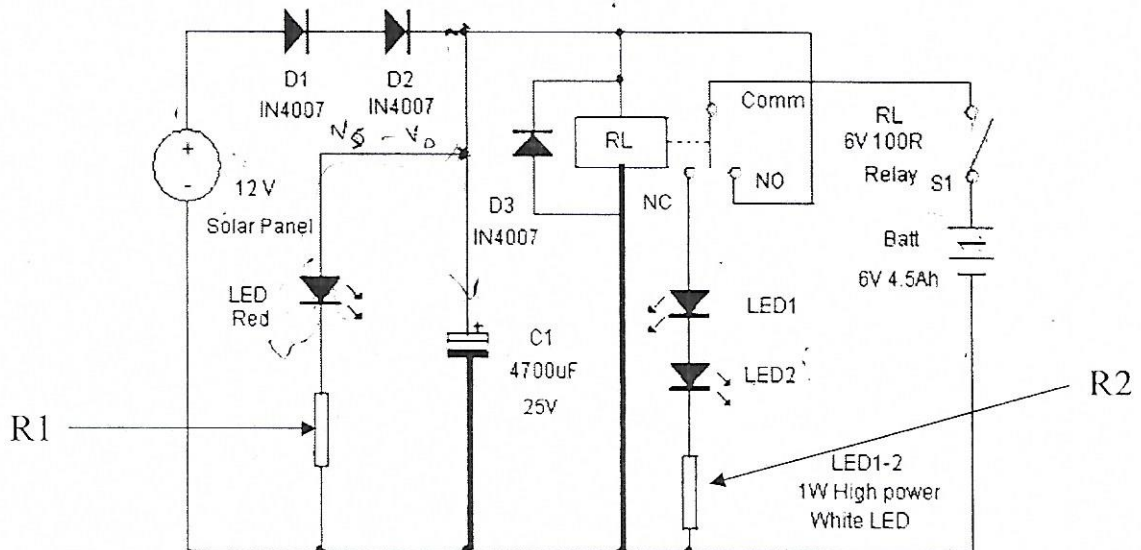

Figure Q2: Solar Lamp Circuit Diagram
- a) Figure Q2 shows a circuit diagram of a solar lamp used to charge the battery during the day and light the LEDs at night. The solar panel is rated 12V, 10W, each white LED light 1 & 2 in the circuit is rated 2.5V, 1W and the Red LED is rated 2V, 20mA. The relay is rated 6V d.c, 100Ω. Diodes 1 to 3 are made of silicon and Battery is rated 6V, 4.5Ah.